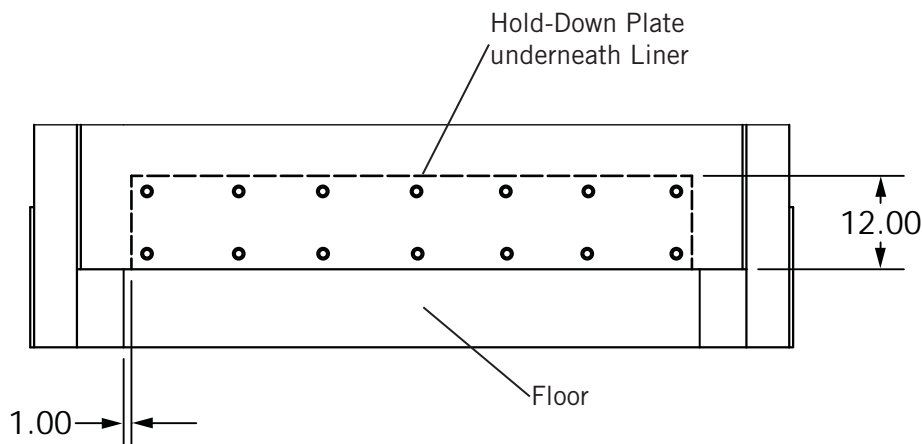

Figure 24
- 1) See **Figure 24**. Use 14 gauge (.0747") steel sheet to construct the hold-down plate.